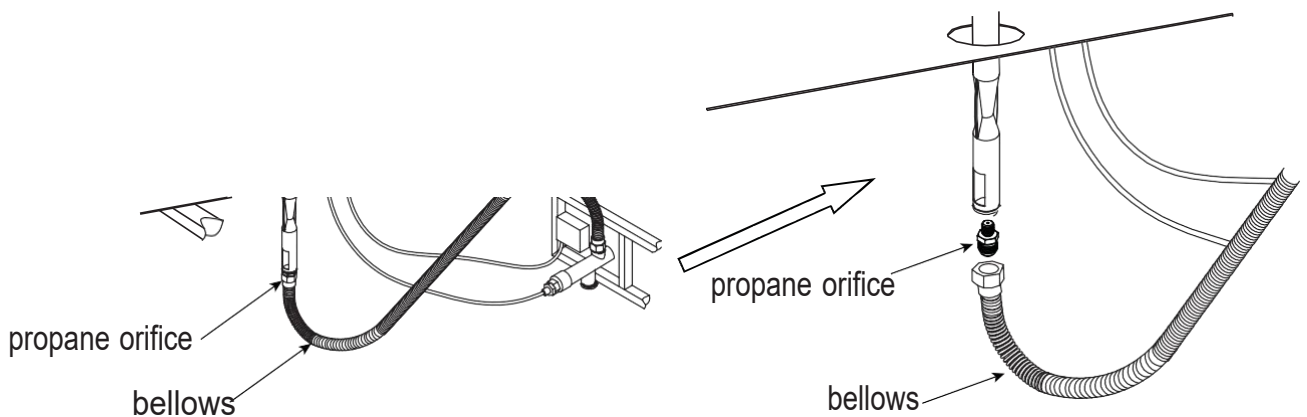

Figure 9
2. Unscrew and disconnect the propane orifice from the bellows (see Figure 9). Propane orifice (2.21 mm diameter size) is painted with red mark.